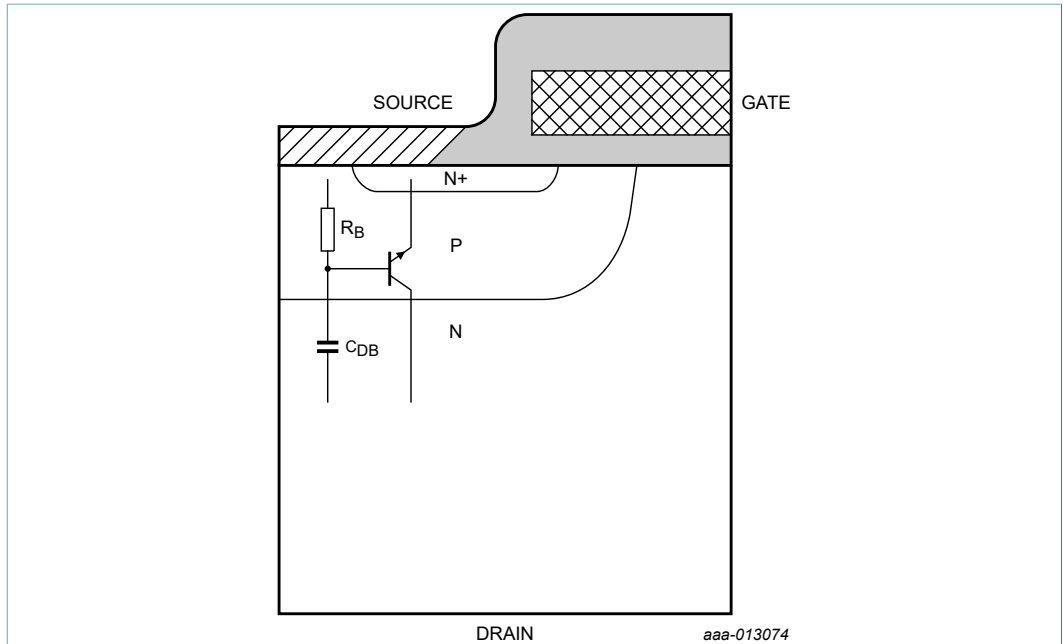

Fig. 11. Physical origin of the parasitic BJT components that may cause dV/dt induced turn-on
7.8. Q: Can Nexperia provide R_B , C_{DB} , V_{BE} saturation values in the parasitic BJT model, as shown in Figure 11?
Early lateral MOSFETs (structure shown in Fig. 11), were susceptible to failure caused by the turn-on of this parasitic transistor.